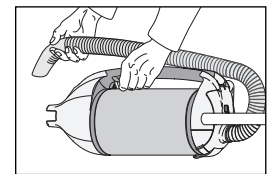

Figure 10
Detachable Suction Unit - Figure 10
When detached from the power head, the FELIX transforms itself into a lightweight, powerful suction unit, which can be carried around using its comfortable carrying handle (figure 10). Ideal for cleaning stairs, car interiors or upholstery. To remove a floor tool or power head, switch off the power and unplug the vacuum. Press the tool release button (14) and pull the vacuum out of the swivel neck (20).